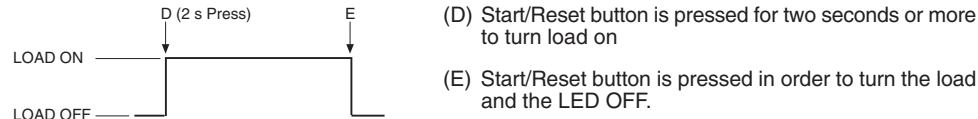

Figure 2: Manual Override operation diagram
As shown in Figure 2 the load is initially OFF until the Start/Reset button is pressed for two seconds or more (D). The load will switch OFF when the Start/Reset button is pressed (E).